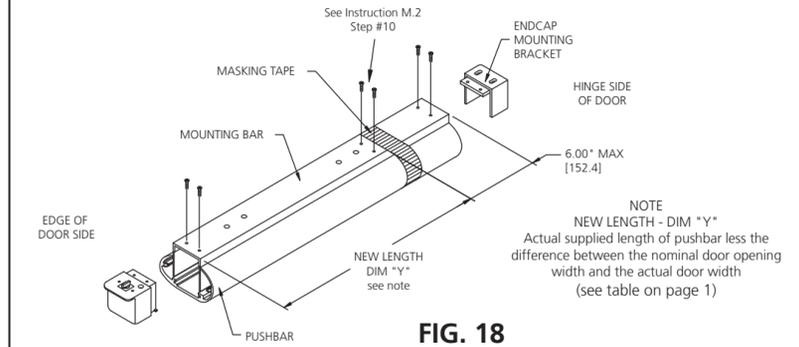

FIG. 18
4. Determine the new pushbar length (dimension "Y") as per note in Fig. 18.